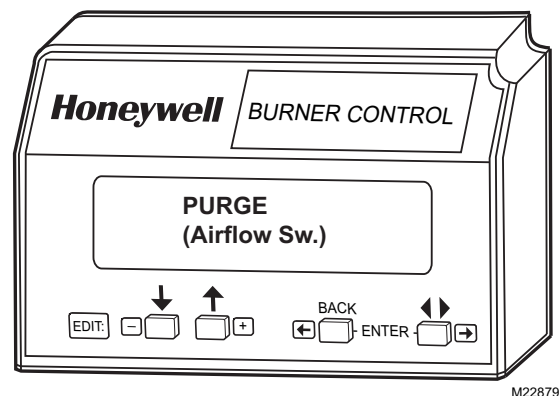

Fig. 18. Lockout message, State 3.
3. State 3 (Fig. 18). Display of the third state message lasts three seconds. It is a replica of the burner status as it existed at the time of the lockout. The second line is blank if the burner status at the time of lockout did not include a preemptive message (in parentheses) for the second line.